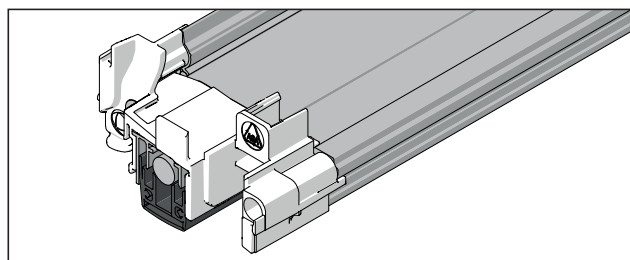

Fig. 4: Installation of lowerable floor seal
- Deburr the cut surfaces and slide the lowerable floor seal into the groove provided in the adapter profile. Floor seal must be flush with the weather rail end cap on both sides (fig. 4).